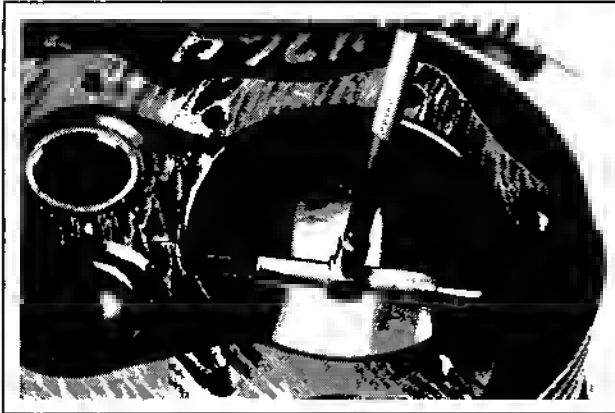

Figure 10-3. Measuring Cylinder Bore.
4. After resizing, check the bore for roundness, taper, and size. Use an inside micrometer, telescoping gauge, or bore gauge to take measurements (Refer to Figure 10-3). The measurements should be taken at three locations in the cylinder—at the top, middle, and bottom. Two measurements should be taken (perpendicular to each other) at each of the three locations.